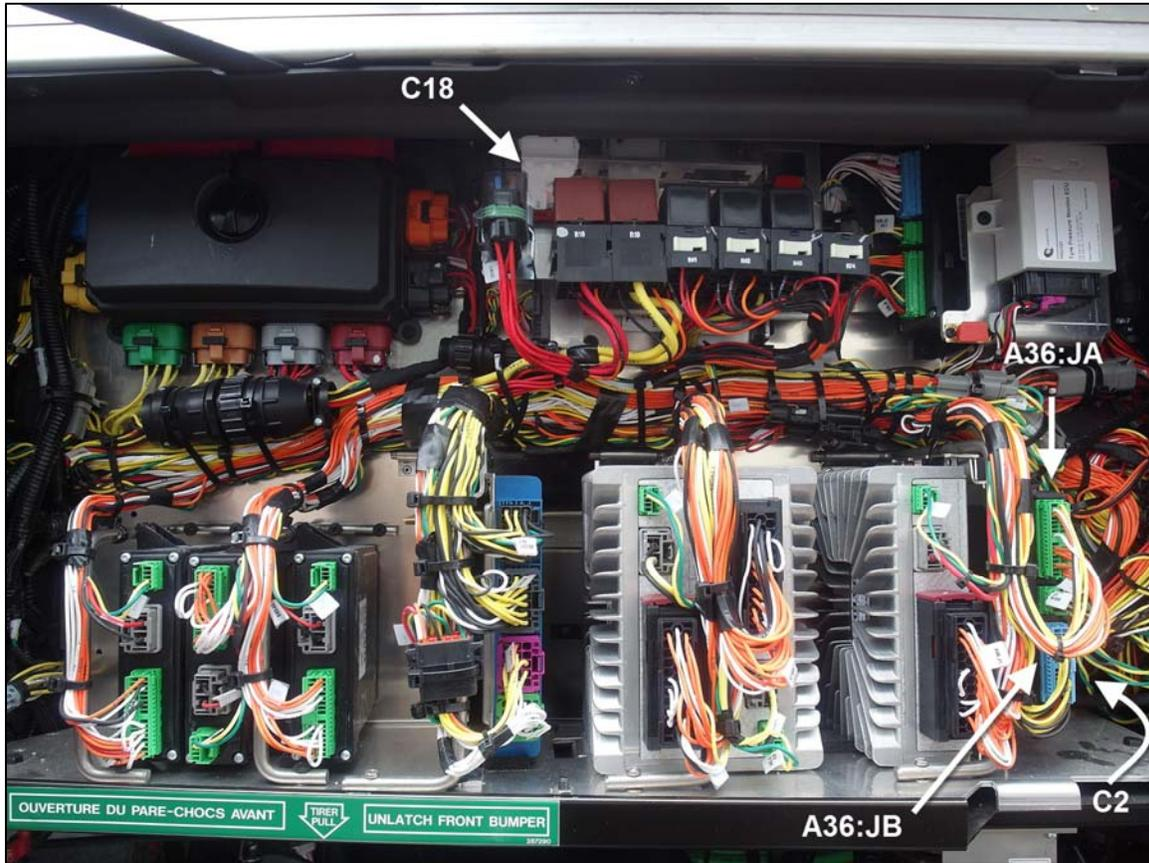

FIGURE 21: CONNECTOR LOCATION OVERVIEW
16. Locate A36; C18 and connector C2. (Figure 21) You will find C2 quite deep inside the cavity shown by the arrow, on the ceiling above the pneumatic panel.